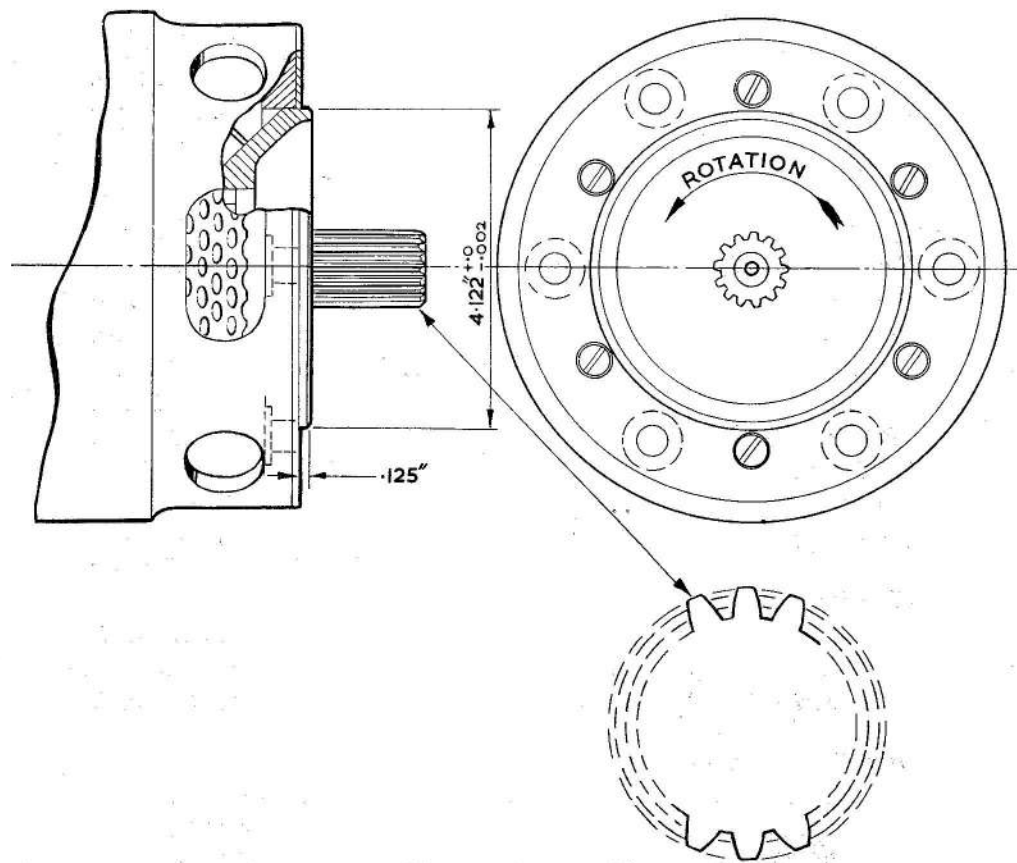

Fig. 1. Installation details of generator, Type B3503
2. Installation differs to that described and illustrated in the main chapter, in that the B3503 is designed for flange and spigot mounting; for installation details see *fig. 1* of this appendix.
3. An involute type of spline has been introduced to a quill drive, that forms an integral part of the main armature drive shaft. The spline details will be found in the Leading Particulars as illustrated in *fig. 1*.